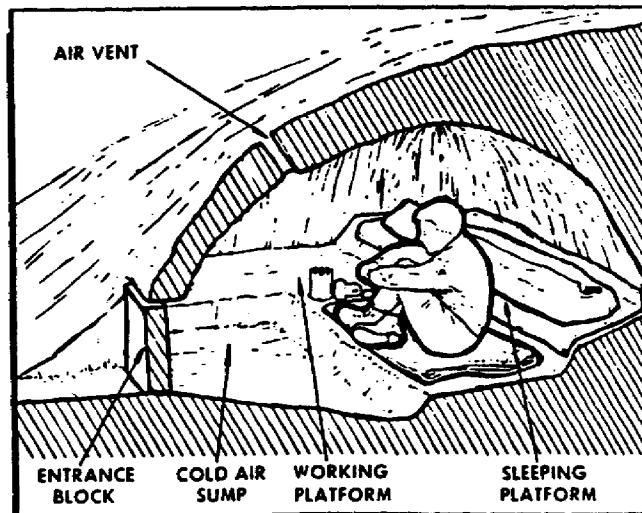

Figure 42. Snow cave shelter living.
a. You should limit the number of shelter entrances to conserve heat. Fuel is generally scarce in the arctic. To conserve fuel, it is important to keep the shelter entrance sealed as much as possible (Figure 42). Activities, such as gathering fuel and snow or ice for melting, should be accomplished only when it is necessary to go outside the shelter. To expedite matters, a trash receptacle may be kept inside the door. Equipment may be stored in the entryway. Necessities that cannot be stored inside may be kept just outside the door. Any firearms (guns) you may have must be stored outside the shelter to prevent condensation build up that could cause them to malfunction.